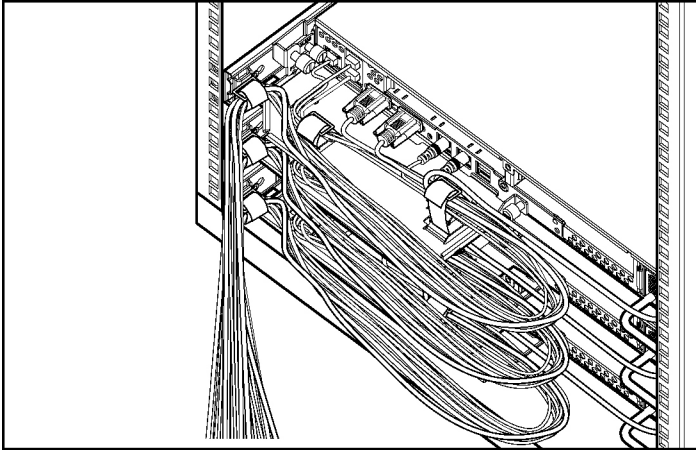

Figure 3-10: Properly routed cabling for multiple servers installed in a Compaq branded rack
6. Route all cables for all servers in the rack. Refer to Figure 3-10